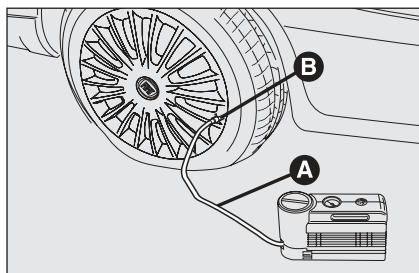

fig. 15
- ☐ **Pull up the handbrake.** Loosen tyre inflation valve cap, take out the filler hose **A-fig. 15** and screw the ring nut **B** on the tyre valve;